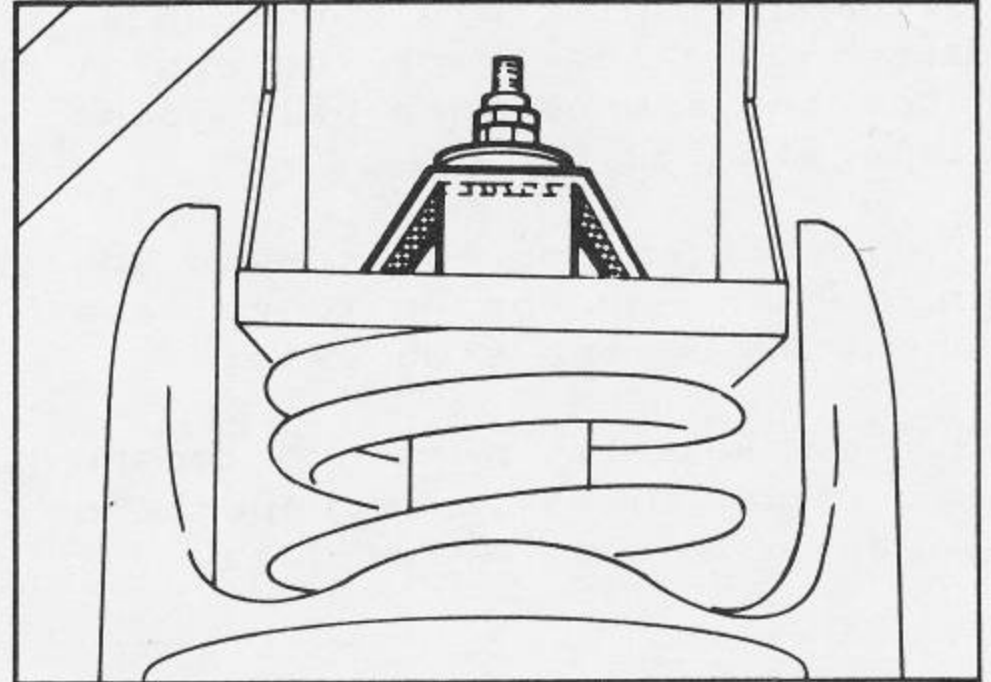
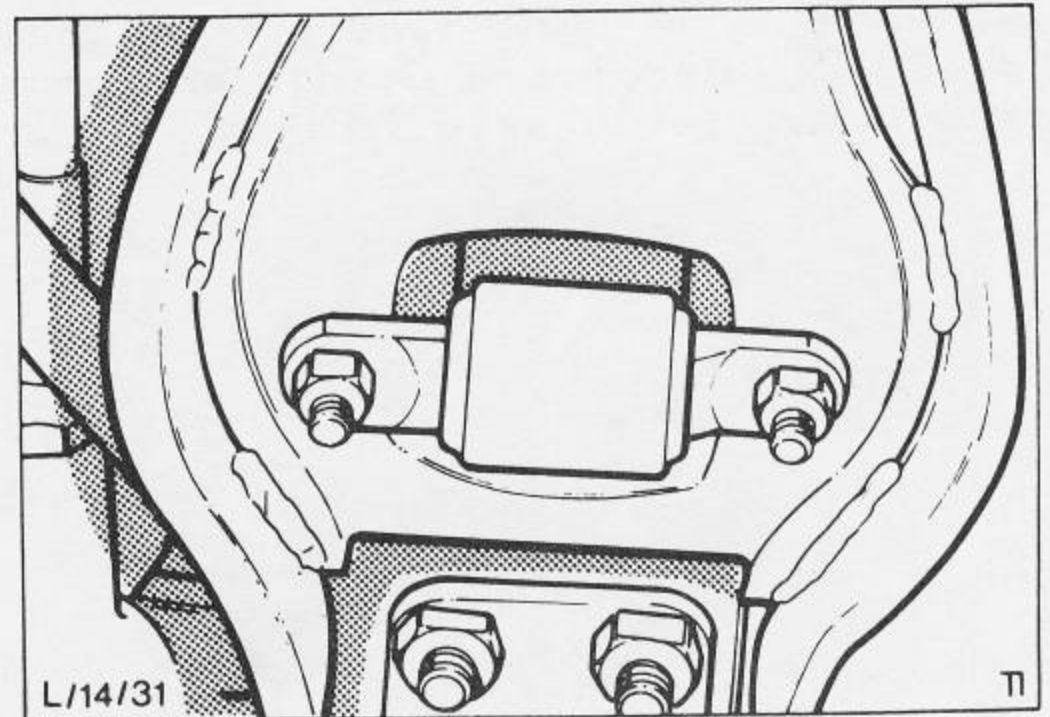

Fig.10 Shock absorber top mount.
Fig.11 Shock absorber lower mount.
4. Remove top shock absorber Fig.10 mounting nut and two lower mounting nuts and remove unit from vehicle. Fig.11